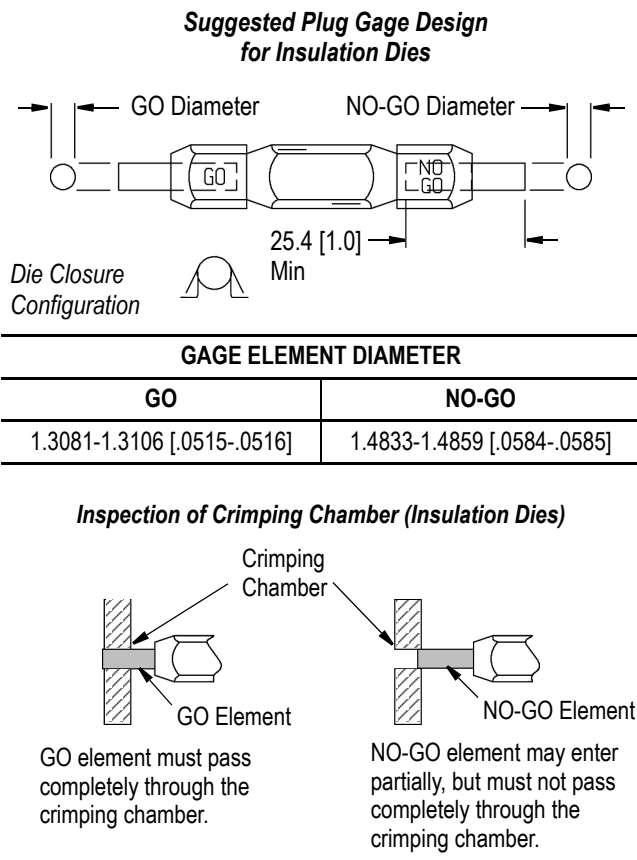

Figure 5
This inspection requires the use of the plug gage conforming to the dimensions provided in Figure 5. To gage the crimping chamber for the insulation barrel crimp, proceed as follows:
3. Insert GO element into the crimping chamber; but do not force it. The GO element must pass through the length of the crimping chamber. See Figure 5.